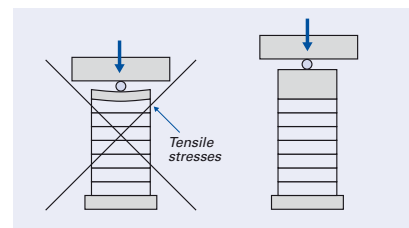

Fig. 58: Proper dimensioning of the end pieces in the case of point contact
- ▶ If a point load is applied to the end piece of the actuator: Dimension the end piece so that its thickness corresponds to half the cross-sectional dimension in order to prevent tensile stresses on the actuator (fig. 58).